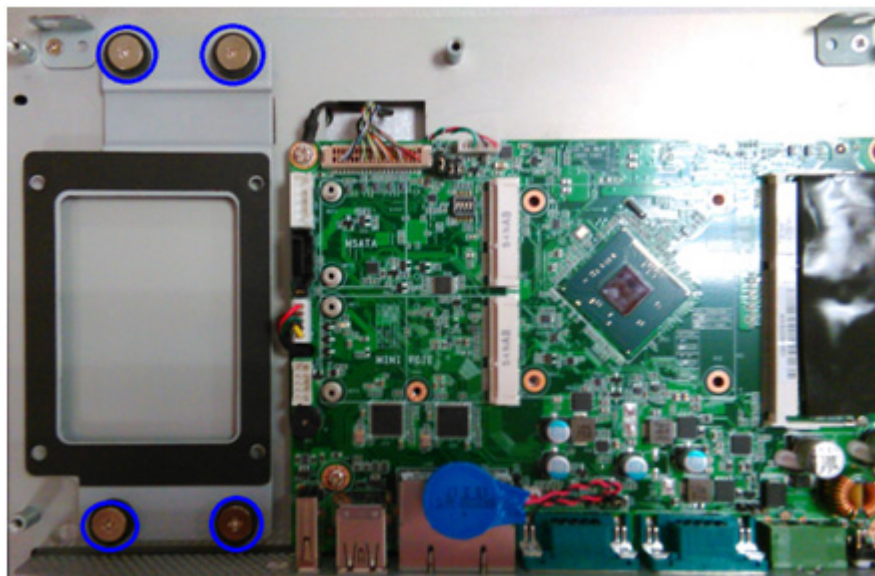

Figure 2.8 Retention screws on HDD bracket
1. Remove the four retention screws on the HDD bracket (Figures 2.8 and 2.9).